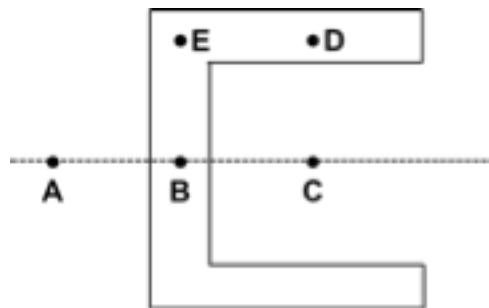

Fig. Q17
17. For the beam cross-section shown in Figure Q17, the shear centre will be located closest to which point?